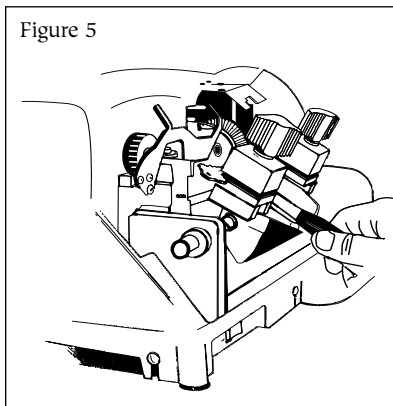

Figure 5
6. Lift the carriage with both hands (see Figure 5).